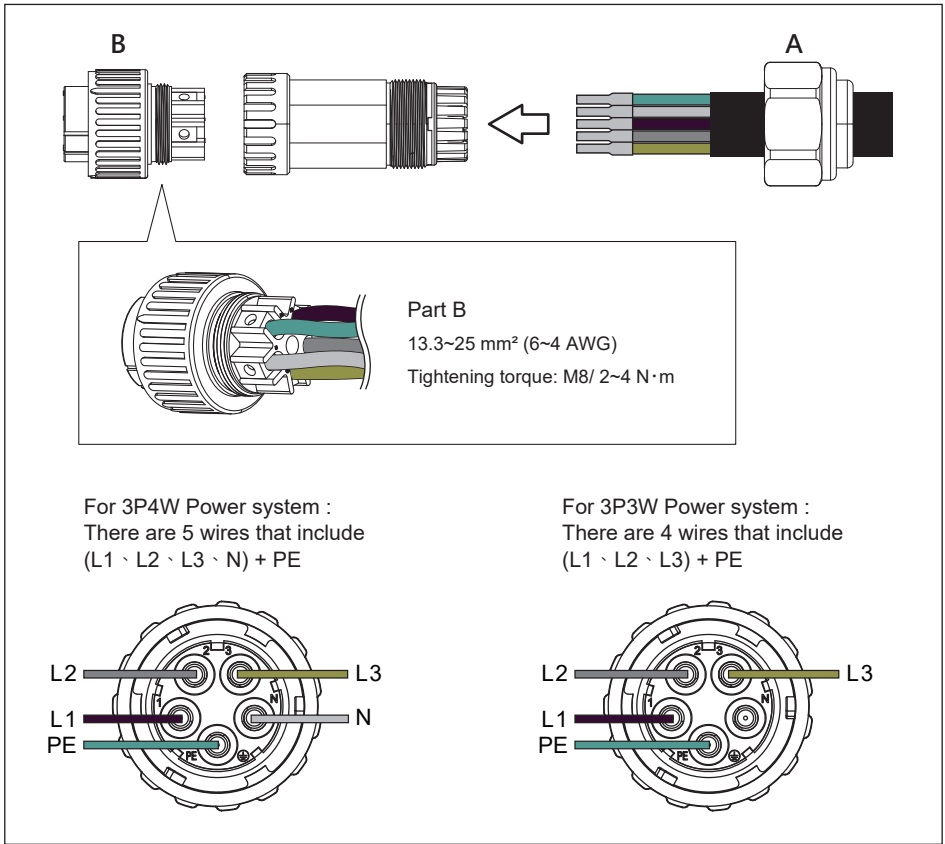

Figure 3-11 : AC wiring
2. Insert the cable into Part A (AC gland), and fix the internal wires (tighten by $\Phi 4.0\text{mm}$ wrench with $2.0\sim 4.0\text{ N}\cdot\text{m}$ torque) into Part B. (**Figure 3-11**)